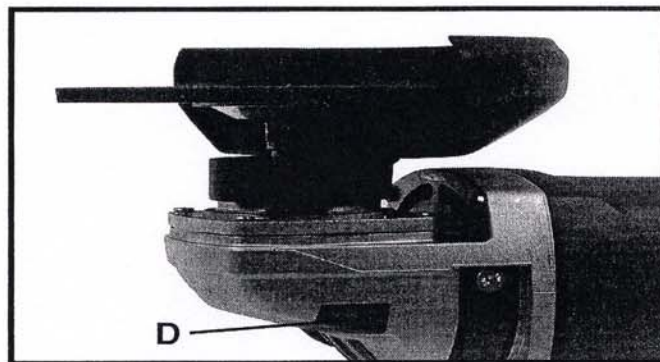

Fig. 4
4. Place hub of grinding wheel onto spindle and rotate clockwise until spindle begins to turn, see Fig. 4.